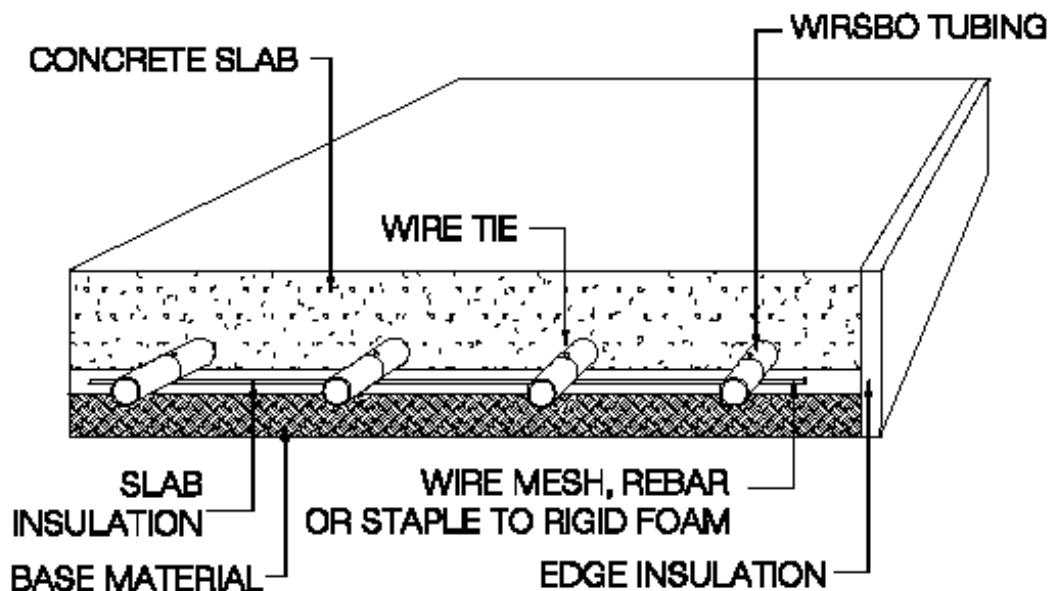

**Figure 1**
4. Tie the tubing to the wire mesh or rebar using Wirsbo wire ties every four feet along straight runs. At the 180° turns, tie the tubing at the top of the arc and once on each side, 12" from the top of the arc (see Figure 1). This will prevent the tubing from dislodging or floating into the pour.